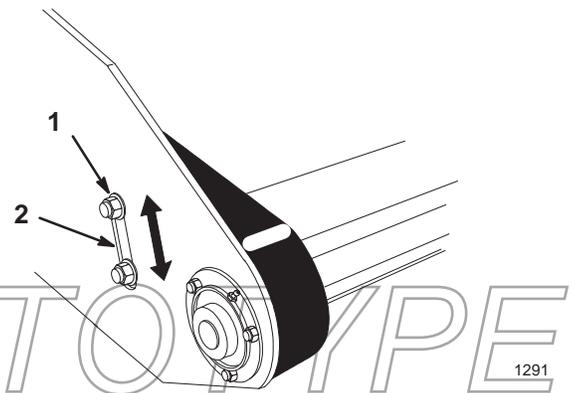

Figure 36
2. Loosen the bolt that secures the idler sprocket to the left side of the housing. (Fig. 36).
3. Slide the idler sprocket in the adjustment slot until the chain is snug, but not tight (Fig. 36).